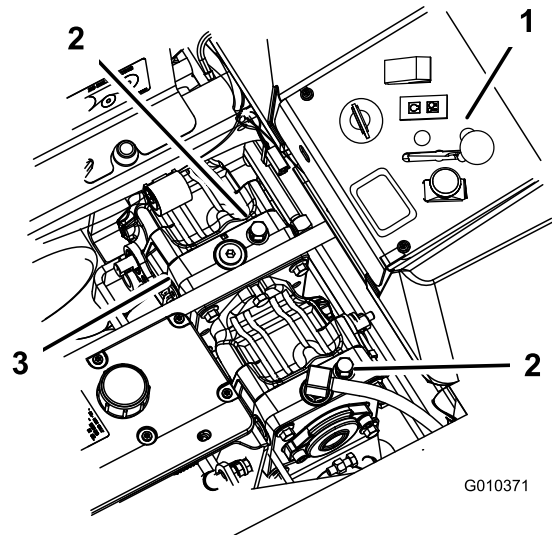

Figure 39
2. Rotate the bypass valves counterclockwise 1 turn to push (Figure 39).
Rotate the bypass valves clockwise 1 turn to operate machine (Figure 39).